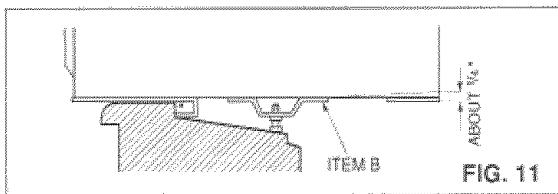

FIG. 11
- 10** The cabinet should be installed with a very slight tilt (about $1/4"$) downward toward the outside (FIG. 11).